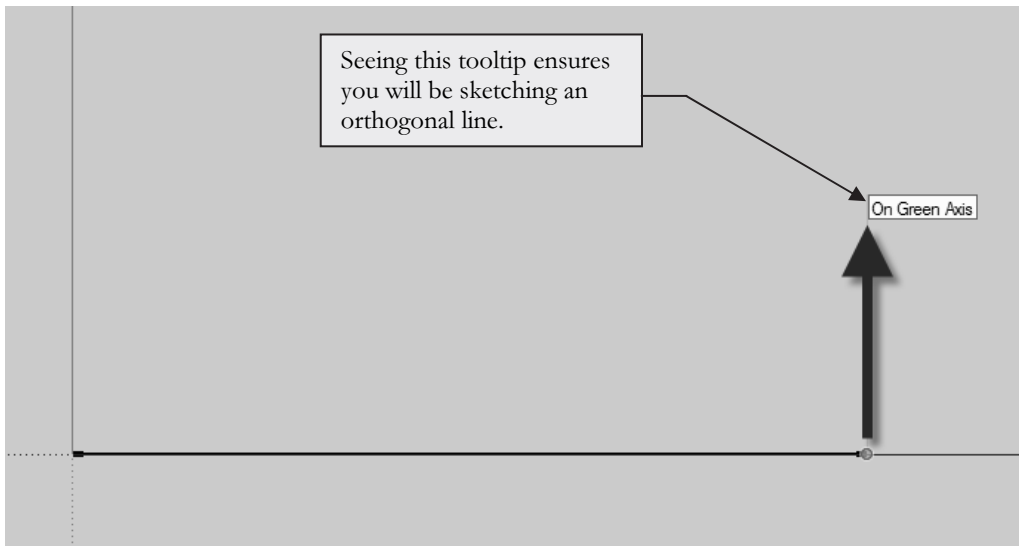

FIGURE 4-2.5 Sketching another line
15. While the **Line** tool is still active (Figure 4-2.5):